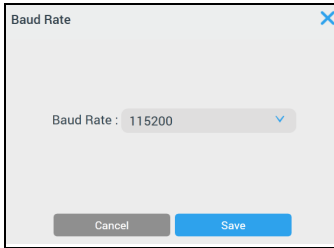

Figure 1. Baud Rate Setting
- If the selected mode is RS232, make sure meter baud rate and Navigator Pro software baud rate setting are matched. Refer to **Figure 1**.